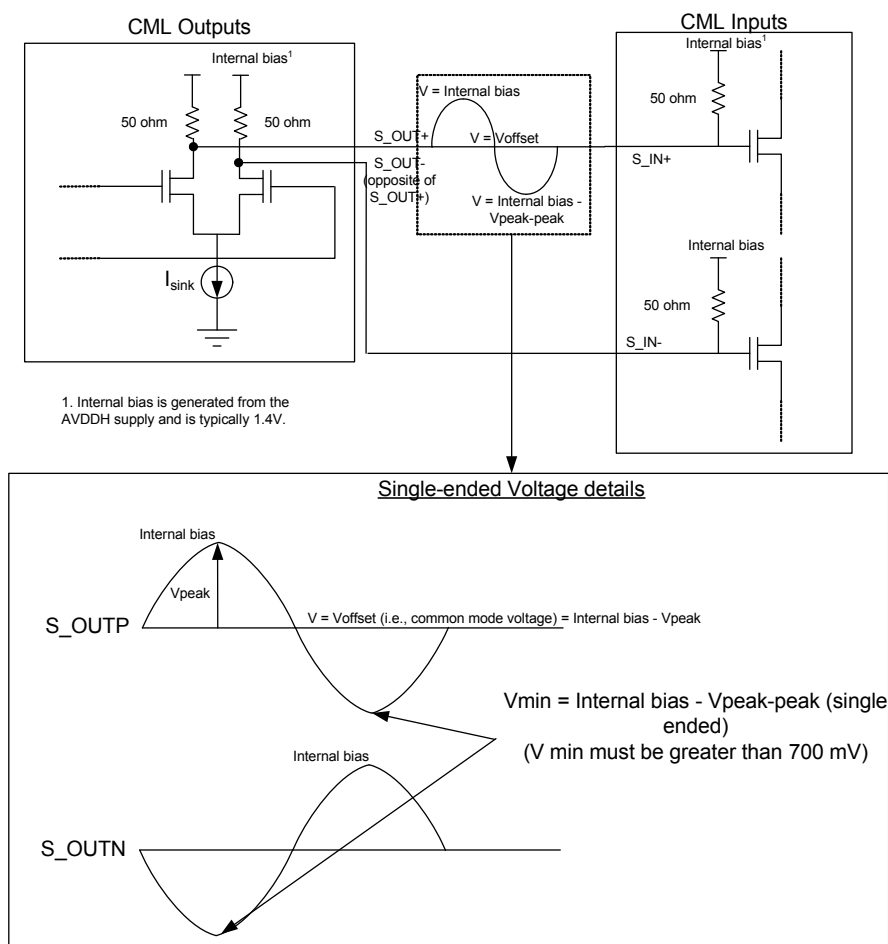

Figure 22. DC Connection to a CML Receiver
If DC coupling is used with a CML receiver, then the DC levels are determined by a combination of the MACs output structure and the device input structure shown in the CML Inputs diagram in Figure 22. Assuming the same MAC CML voltage levels and structure, the common mode output levels are determined by:
- Voffset (such as, common mode voltage) = internal bias - single-ended peak-peak voltage swing/2. See Figure 22 for details.